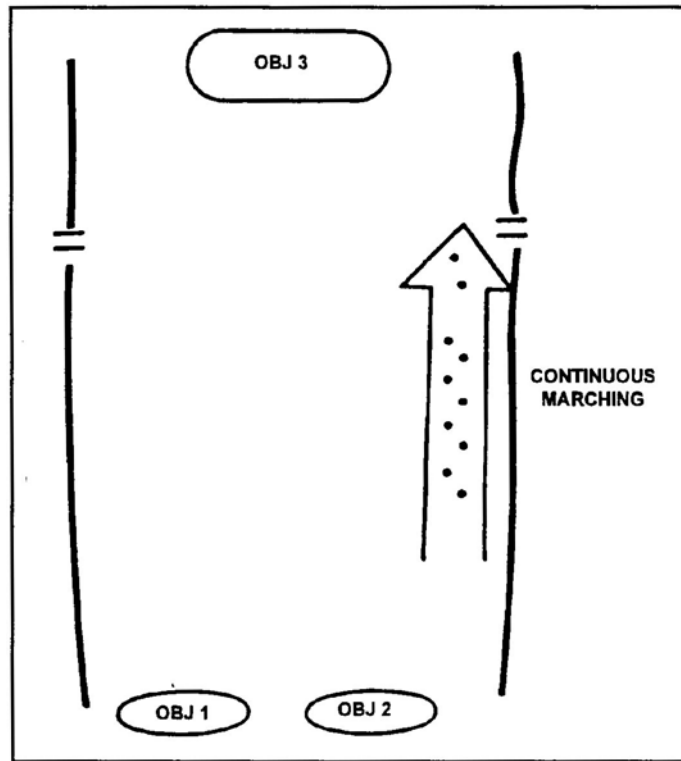

Figure 3. Continuous marching technique.
- b. The continuous marching technique can be used when the protected force is advancing rapidly at a constant rate and the enemy resistance to the flank is very light. The screening force uses a column formation and moves without halting, adjusting its rate of advance to the movement of the protected force. Continuous marching should not be thought of as the only traveling movement technique. The movement technique will, of course, be dependent on the likelihood of contact. For example, in Figure 3, Objectives 1 and 2 have already been seized and the momentum of the attack has increased substantially toward Objective 3. The leader must screen a fast-moving main force, and he decides to use continuous marching. This method, although it detracts from selecting and occupying OPs, gives the platoon leader the ability to screen a fast-moving force.